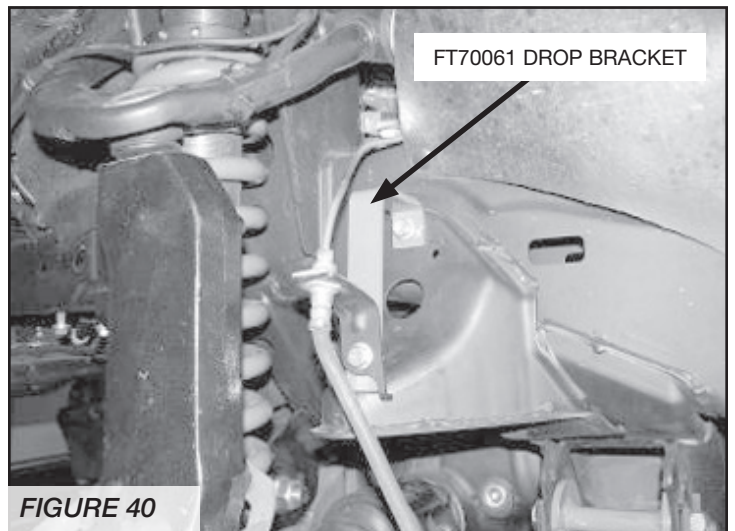

FIGURE 40
30. Locate the factory brake line tab next to upper control arm. Unbolt the bracket from the frame save hardware and bracket. You will need to carefully pull the hard brake line down 4". Locate FT70061 brake line drop bracket and attach the bracket to the frame with the factory hardware in the upside down J formation. Attach factory bracket to the new bracket using the supplied $\frac{5}{16}$ " x 1" bolt, nut, and washers (BAG 2). **SEE FIGURE 40**